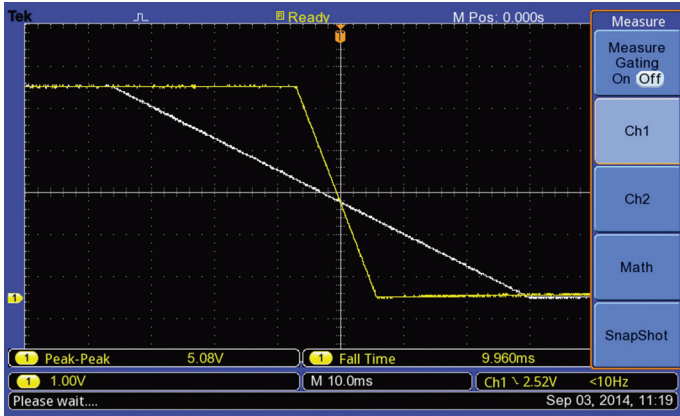

Figure 6. 10ms falling edge becomes the second boundary.
6. Press Output on the power supply to close it. The scope is triggered at another falling edge. Note that the “Fall Time” is now 10ms (see Figure 6).